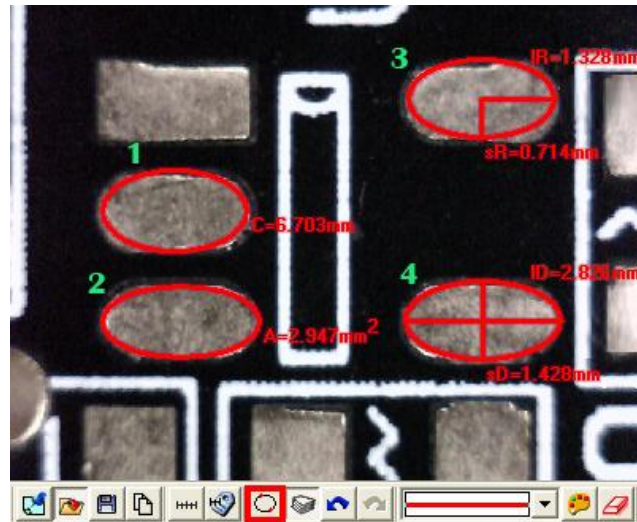

Fig 5-67 Oval
- (4) Oval: Measure an oval circle and use . Firstly choose Fig.5-67 Scale information setting dialog. To point any dot on an oval, pressing the left mouse button, and drag to fit the oval on an observation object. Same methods as Circle to be measured for 2 Points Circle and 3 Points Circle, 1st oval $C=6.703\text{m}$, 2nd oval $A=2.947\text{mm}^2$, 3rd oval: $lR=1.328\text{mm}$, $sR=0.714\text{mm}$, 4th oval $lD=2.826\text{mm}$, $sD=1.428\text{mm}$.